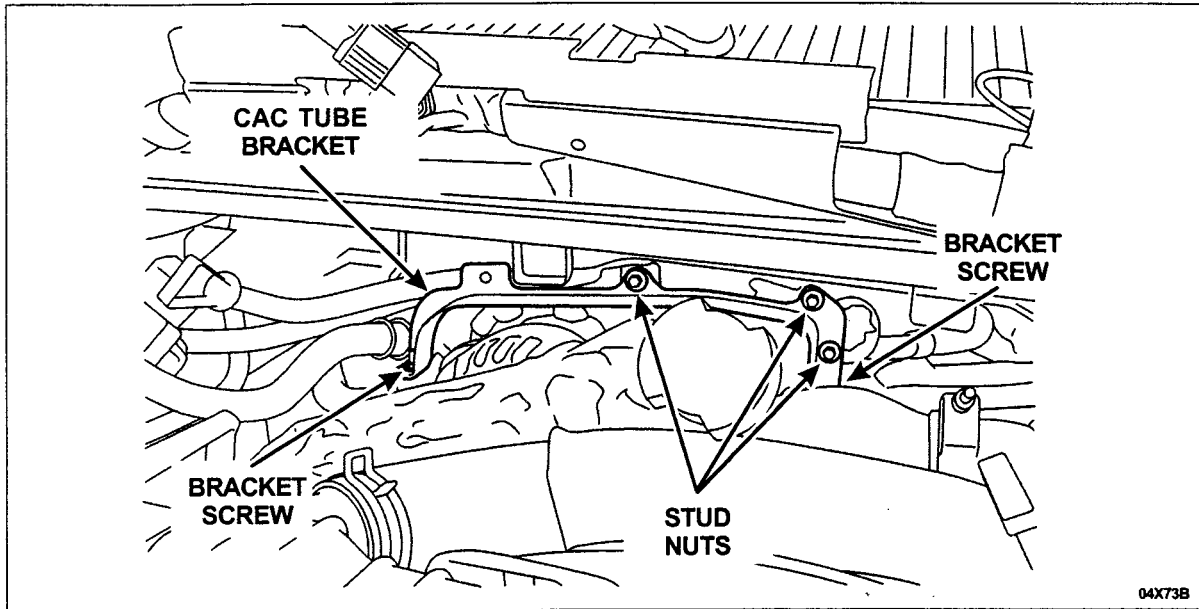

FIGURE 2
3. Remove the charge air cooler (CAC) tube bracket by removing the left- and right-side stud nuts and the bracket screws. See Figure 2.